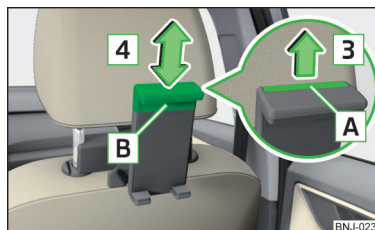

Fig. 88
- To **adjust the holder size**, pull out the securing tab **A** in the direction of arrow **3** and push the part **B** in the direction of arrow **4** to the desired position » Fig. 88.